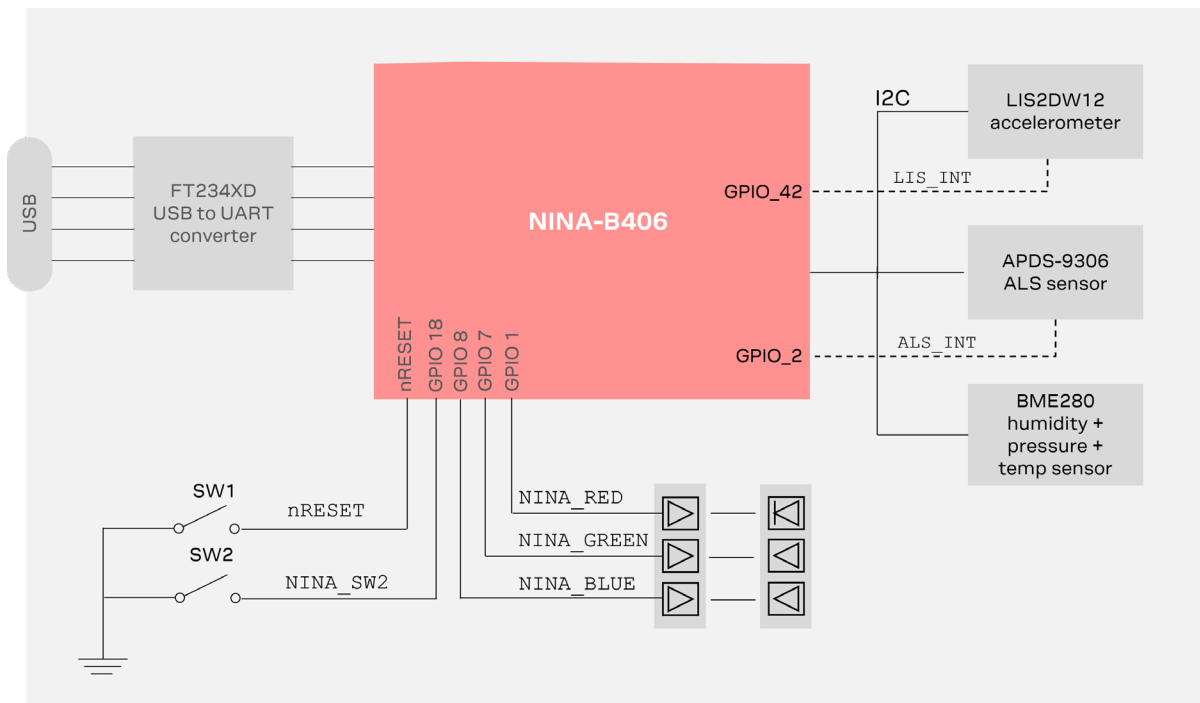

Figure 12: C209 main functional components
2. After the configuration it is necessary to remove jumpers J13 and J22, as shown in Figure 12. These jumpers select UART1/UART3 on the EVK-ODIN-W2 and direct the UART signals to the Arduino-compatible interface.
**Figure 12.** Shows the location of jumpers J13 and J22. Remove these to select UART1/UART3 on the EVK-ODIN-W2 and direct the UART signals to the Arduino-compatible interface.
The main components of any C209 tag are shown in Figure 12.